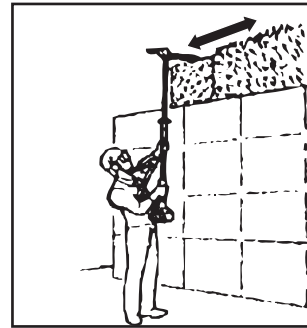

Fig. 16
12. Move the product with slow motion forward when cutting higher hedge and the cutting area out of sight (Fig. 16).